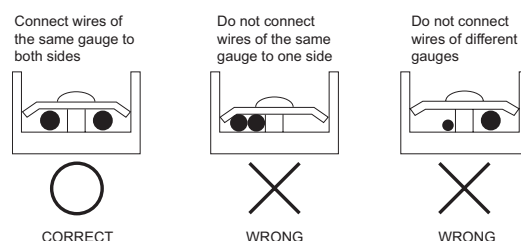

Fig. 16
- Do not connect wires of different gauge to the same power supply terminal. (Fig. 16)